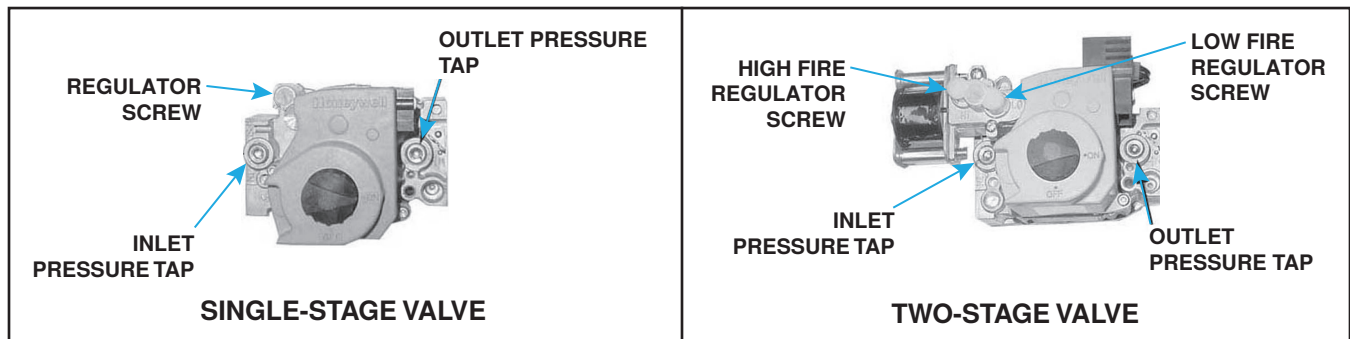

Figure 23. Combination Gas Valves
1. With manual valve (on combination valve) positioned to prevent flow to main burners, connect manometer to outlet pressure tap (see Figure 23) on valve.
3. Normally, adjustments to factory-preset regulator should not be necessary. If adjustment is necessary, set pressure to correct settings by turning regulator screw (see Figure 23) IN (clockwise) to increase pressure or OUT (counterclockwise) to decrease pressure. Consult valve manufacturer's literature provided with furnace for more detailed information.